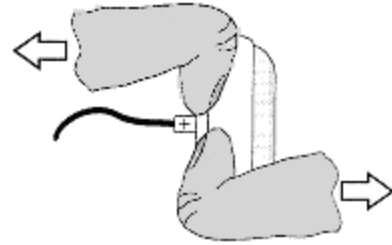

FIGURE 3
- 1) Remove the tweeter's plastic backplate by separating the plate from the tweeter housing with your two thumbnails at one of the terminal locations, gently prying the two pieces until they snap apart. See Figure 3.